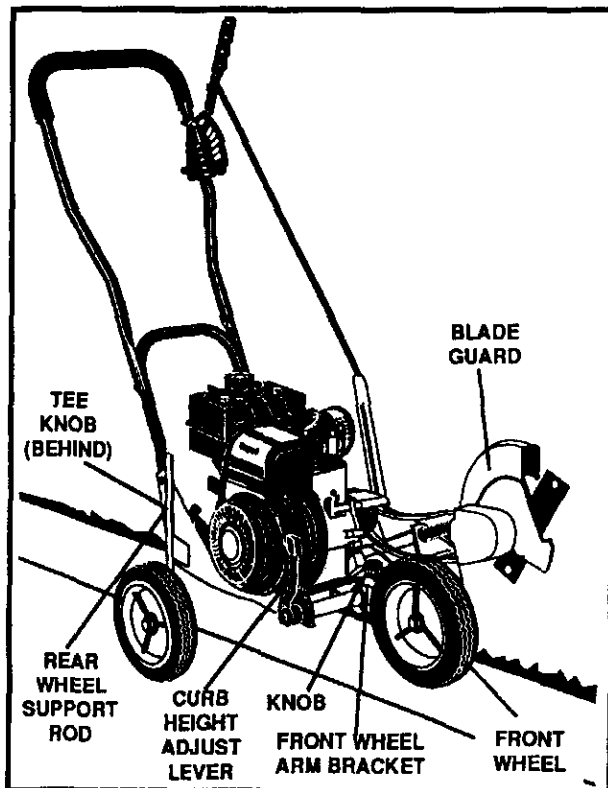

FIG. 8
The adjustable front and right rear wheel feature permit the edger/trimmer to be used on an uneven surface (such as a curb) as shown in Fig. 8.
- Loosen the tee knob on the inside right rear of the main frame that secures the wheel support rod (See Fig. 8).